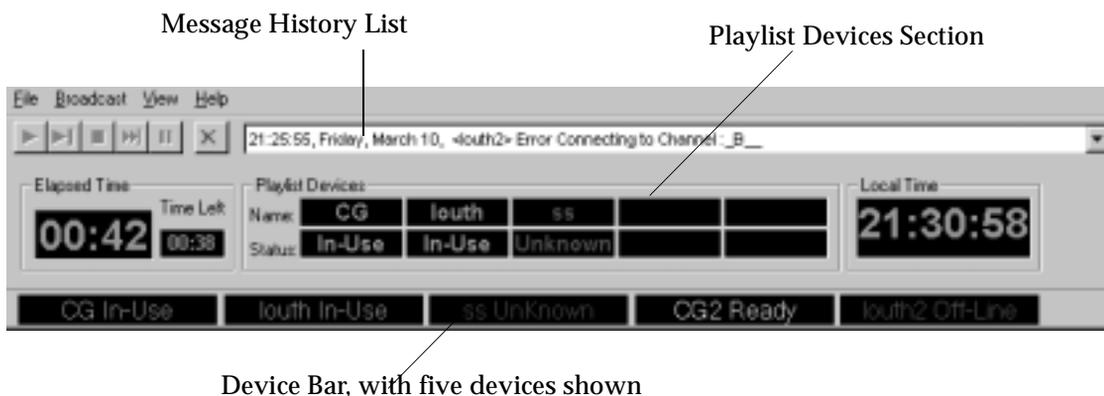

Figure 6-5 Partial View of the ControlAir Workstation Screen
- The ControlAir Workstation (Figure 6-5 on page 6-13)
The ControlAir Workstation also provides some indicators concerning devices and their DMs in the Device bar and Playlist Devices section, as shown in Figure 6-5 on page 6-13 and in Table 6-1 on page 6-14. For instance, some status categories may indicate potential problems, such as Off-line and Unknown.
A device with multiple channels will appear Off-line when all of its channels become disconnected. When this happens, an error message is issued to the ControlAir Workstation and displayed in its Message History drop-down list. An example of this is shown in Figure 6-5 on page 6-13; see the `louth2` device.